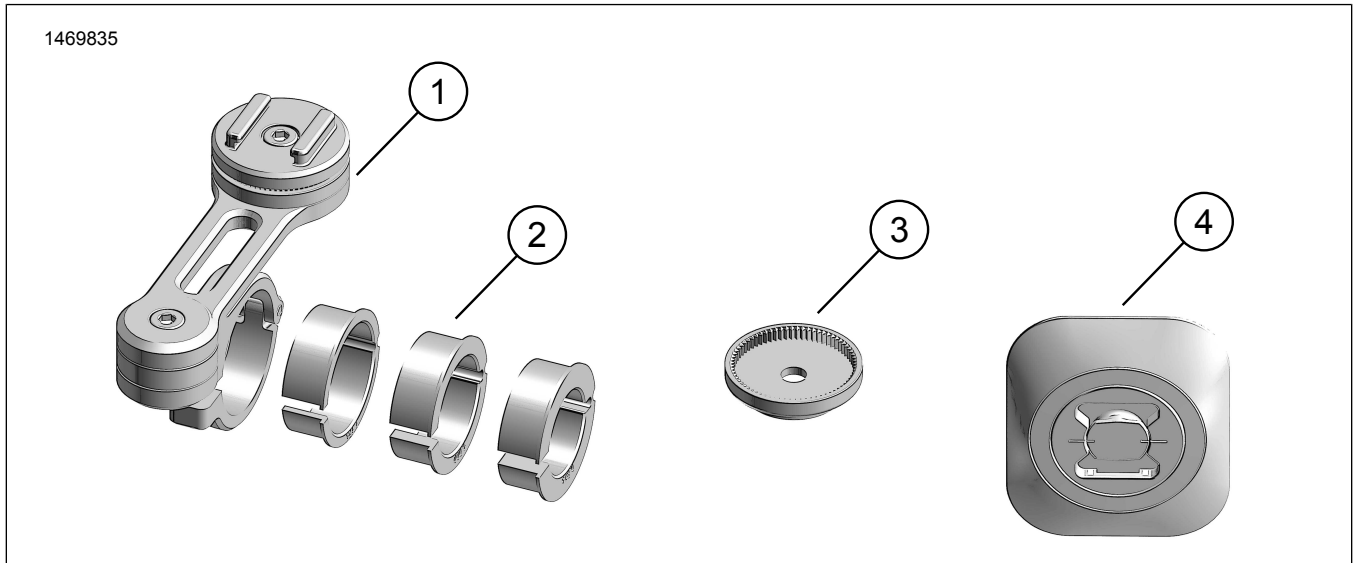

Figure 1. Kit Contents: Universal Phone Carrier w/ Handlebar Mount
1. Figure 1 Install handlebar mount (1).
1. Figure 1 Install universal interface (4).